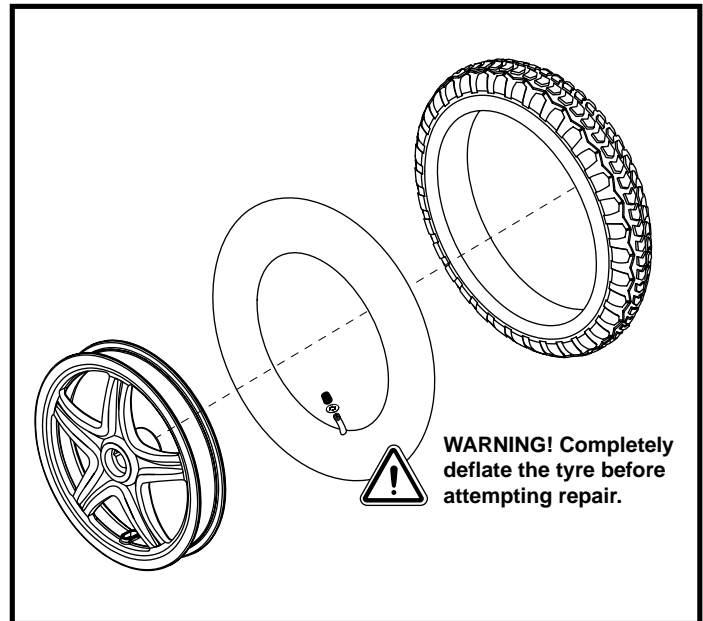

Figure 35. Drive Wheel Disassembly (Pneumatic)
8. Separate the tyre and tube from the rim and replace with a new tube for pneumatic tyres. See figure 35.